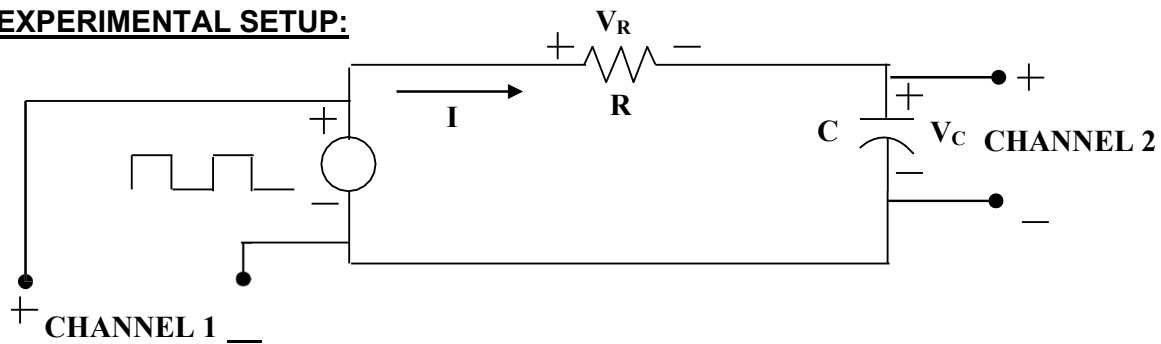

Fig.1
1. Set up the circuit as shown in Figure 1.